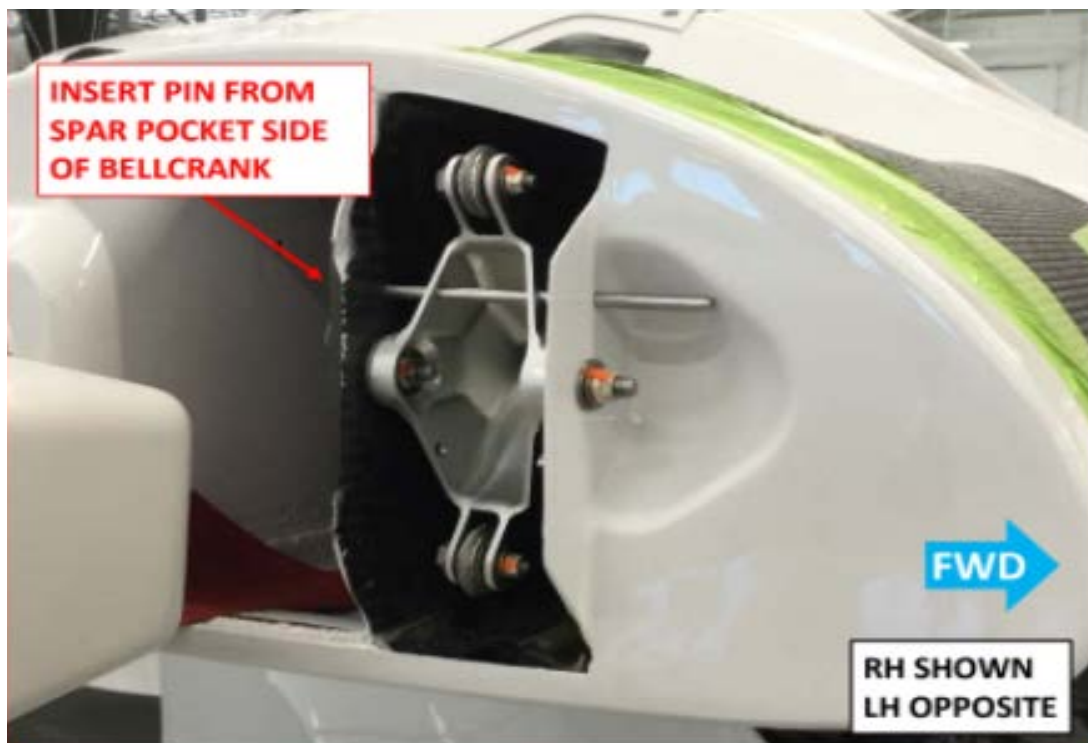

Figure 4: Roll socket rig pin installation
5. With the wing still folded install a 0.1875" rig pin in the roll socket on the center wing as shown in Figure 4, insert it from the spar socket forward so that the wing can be inserted and locked.